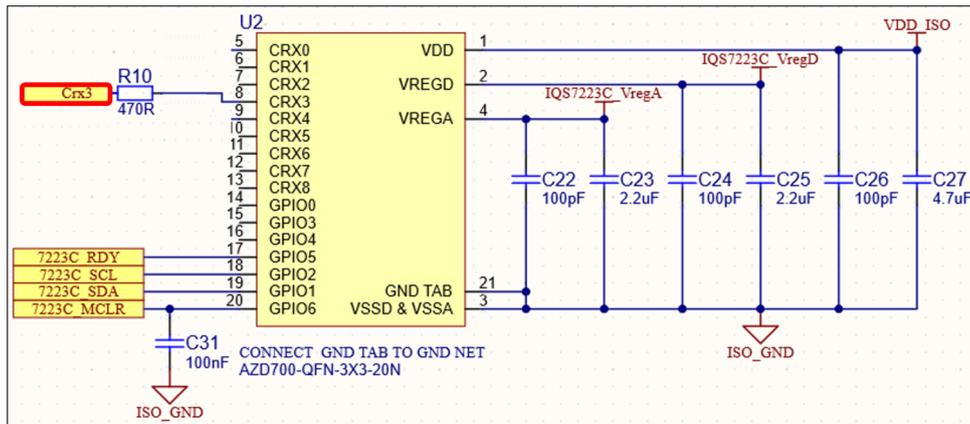

Figure 4.1: IQS7223C Schematic Layout: IC With Passives
Figure 4.1 show the IC and relevant passive components. In this example, we aim to detect when a user approaches the keyboard. Therefore, we must design for maximum detection coverage over the entire keyboard region. The best way to achieve this is to use the metallic surface of the keyboard as the electrode plate and connect it to the IQS7223C in a self-capacitance configuration. Figure 4.1 shows that the CRX3 pin of the IQS7223C is connected to the metallic electrode plate (Crx3), as indicated by the red block.
5. **Rx Selection.** The IQS7223C allows up to four pins (CRX0 to 3) to be selected as inputs. As per Figure 4.1, only CRX3 is used, and must therefore be selected.